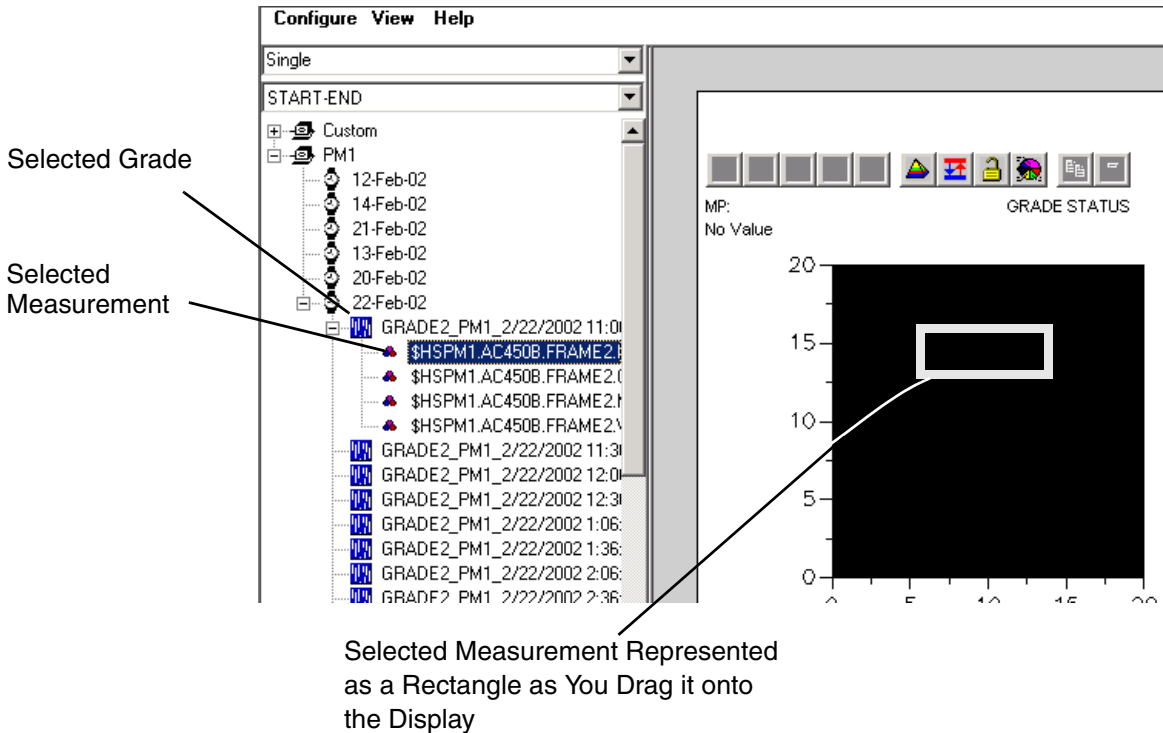

Figure 32. Selecting a Quality Measurement
- Select (highlight) the quality measurement from the **Navigator**, then drag and drop it on the applicable view (contour map CD, or MD). As you drag the quality measurement over the display area, its location is represented as a rectangle, **Figure 32**.